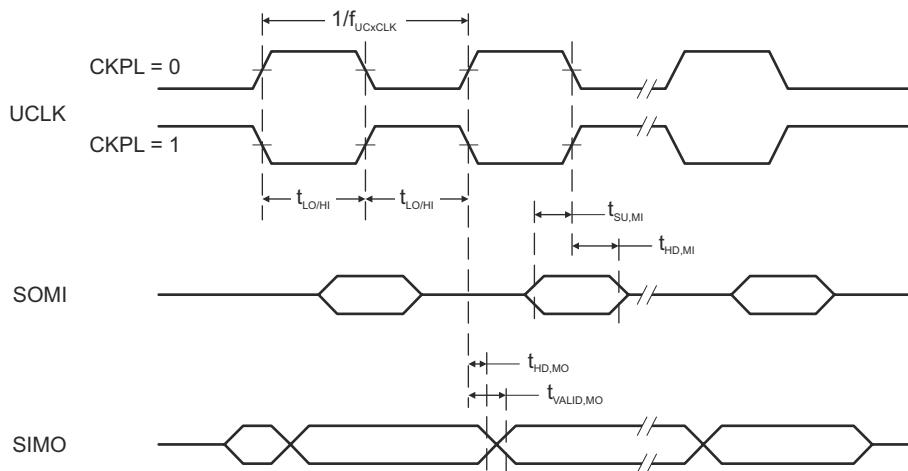
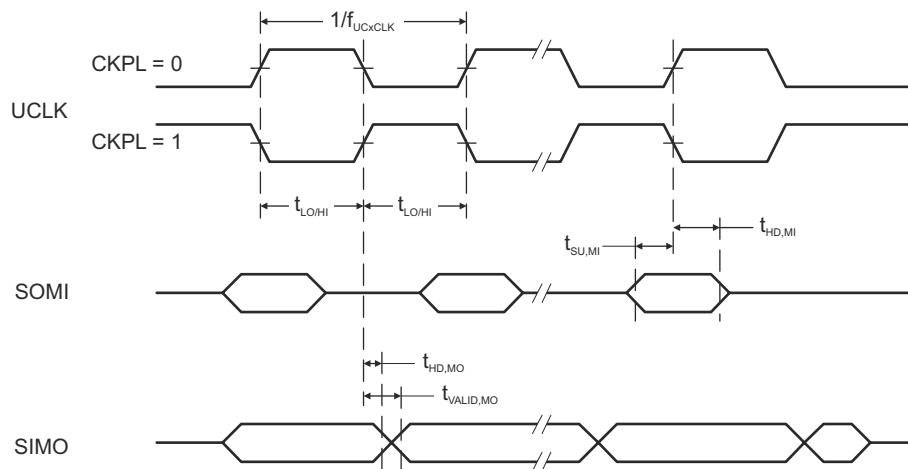

Figure 8-11. SPI Master Mode, $\text{CKPH} = 0$
Figure 8-12. SPI Master Mode, $\text{CKPH} = 1$
(see Figure 8-11 and Figure 8-12)
(2) Specifies the time to drive the next valid data to the SIMO output after the output changing UCLK clock edge. See the timing diagrams in Figure 8-11 and Figure 8-12.
(3) Specifies how long data on the SIMO output is valid after the output changing UCLK clock edge. Negative values indicate that the data on the SIMO output can become invalid before the output changing clock edge observed on UCLK. See the timing diagrams in Figure 8-11 and Figure 8-12.